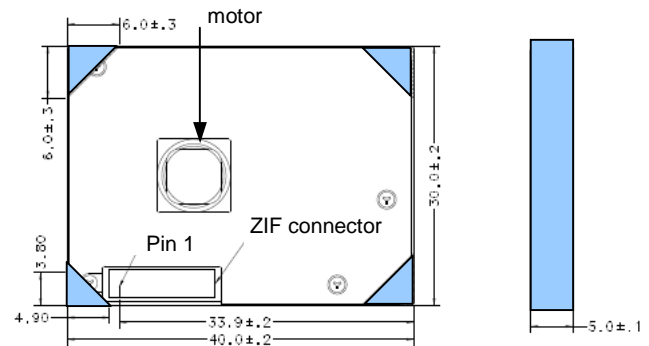

Figure 3 ST1.3 Series, DE/DEG dimensions—end and bottom views
- Do not cover or otherwise obstruct the breather hole on the top of the drive. (See Figure 3)
Note. This drive is designed for a product that supplies interface signals and +3.3V power through the ZIF connector. See Figure 3 for drive dimensions.
Follow installation instructions for media devices provided in your product's user manual to determine if your Seagate ST1.3 Series disc drive is compatible. See Figure 3 for drive dimensions. Follow all handling precautions/electrostatic discharge protection suggestions when installing any drive.